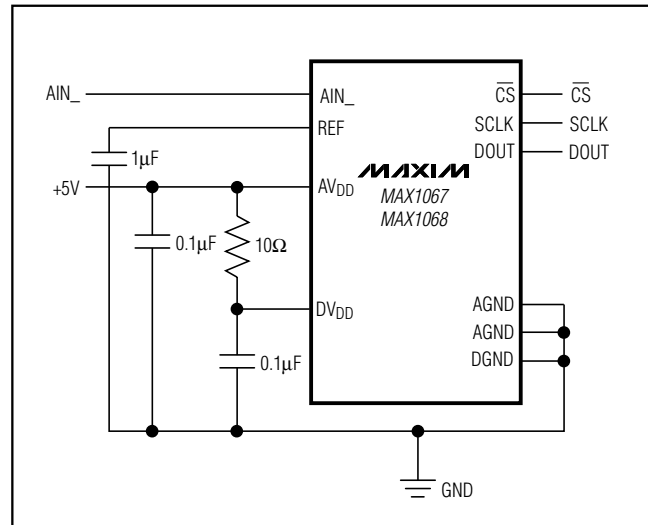

Figure 25. Powering AVDD and DVDD from a Single Supply
Use printed circuit (PC) boards with separate analog and digital ground planes. Do not use wire-wrap boards. Connect the two ground planes together at the MAX1067/MAX1068 AGND terminal. Isolate the digital supply from the analog with a low-value resistor (10Ω) or ferrite bead when the analog and digital supplies come from the same source (Figure 25).